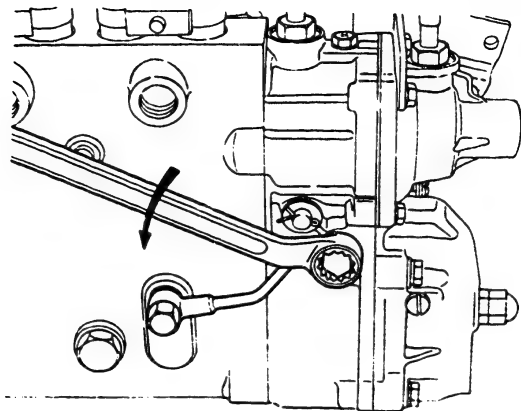

Fig. 30 Removing the oil drain plug
9. Remove the oil drain plug (1/23) and two gaskets (1/22 and 1/24). (Fig. 30)